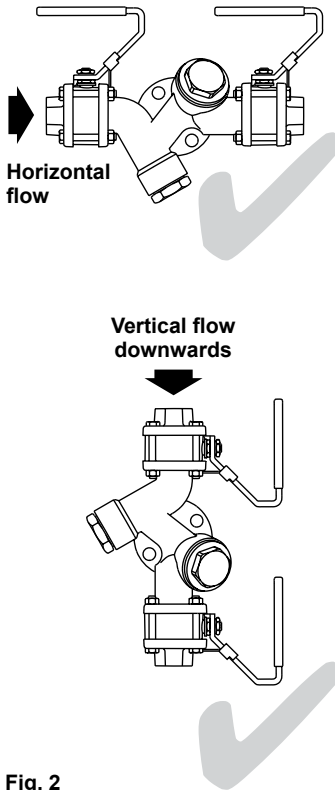

Fig. 2
- 3.9** The STS17.2 can be installed in a horizontal line, or in a vertical line with flow downwards - See Figure 2.